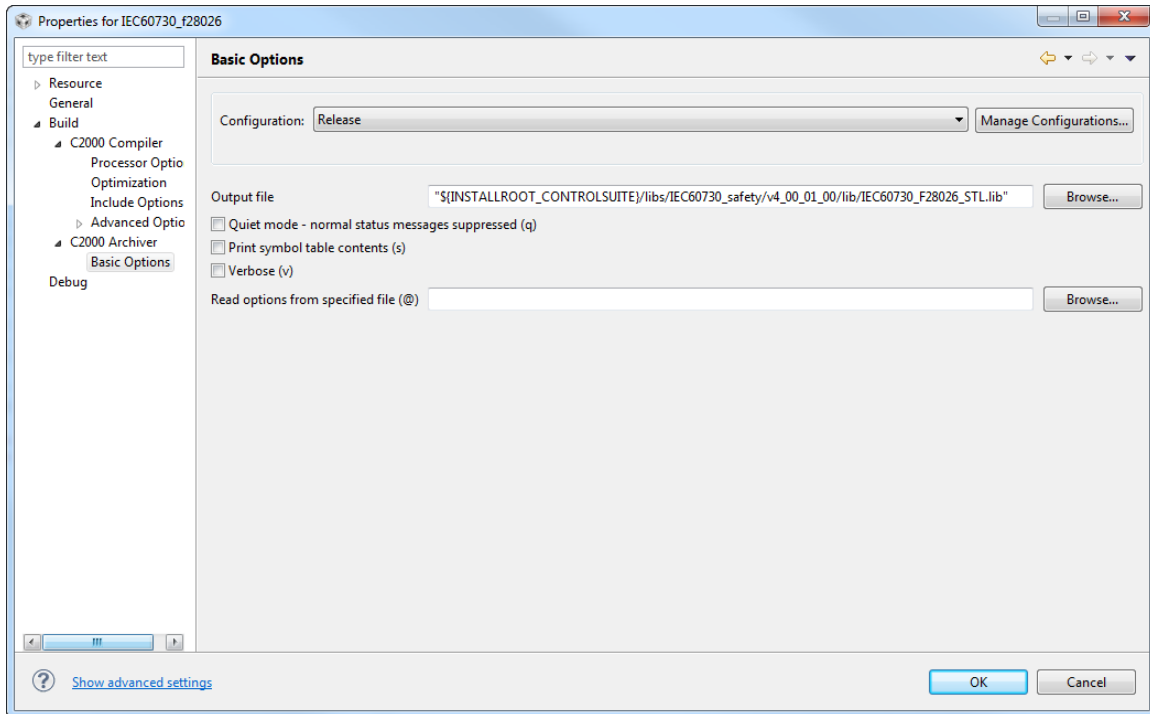

Figure G.3: Setting Library Output name and Directory
8. Click on **Projects** menu > click on **Properties** > expand to **Build** > **C2000 Archiver** > **Basic Options**. In the **Basic Options** in **Output file** text box type in the name of the library and the directory to place the library. For instance if building for f28026, enter **"\${INSTALLROOT_CONTROLSUITE}/libs/IEC60730_safety/v4_00_01_00/lib/IEC60730_F28026_STL.lib"** > click **OK**. This will set the name of the library and the directory it will be placed after it is built. See figure G.3.